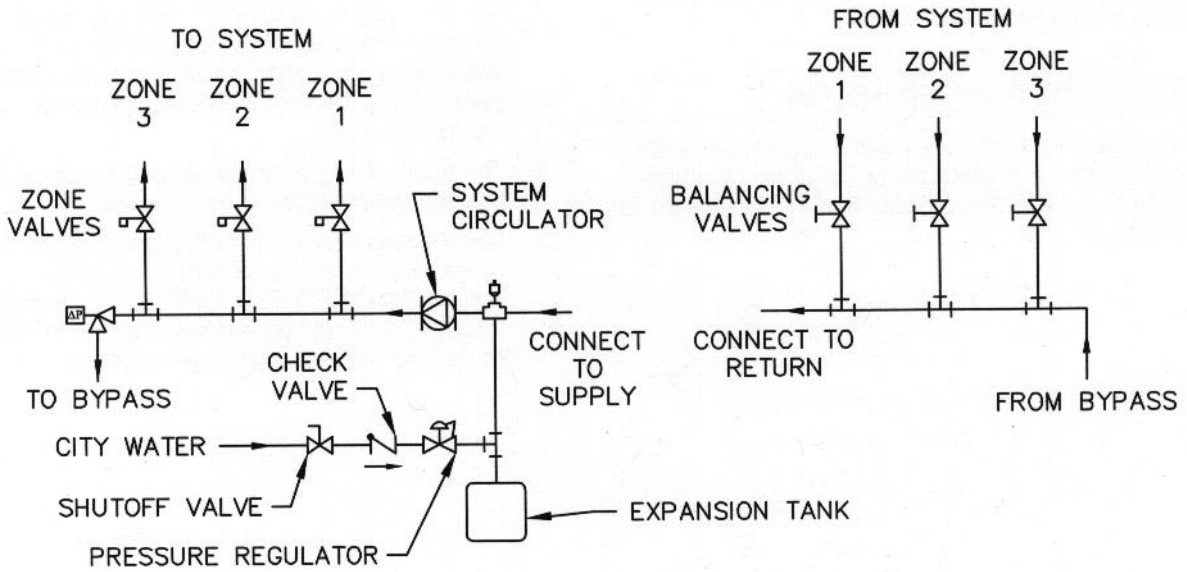

Figure 3.6: Zone Piping with Zone Valves
1. See Figures 3.6 and 3.7 for basic zoned system layouts.